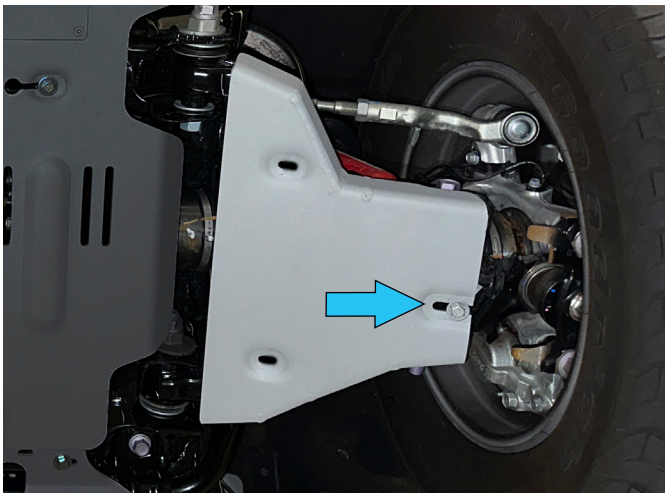

Fig.3
3. Slide the left control arm skid plate (item 1) over previously installed hardware from step 2 as shown in Fig.3.